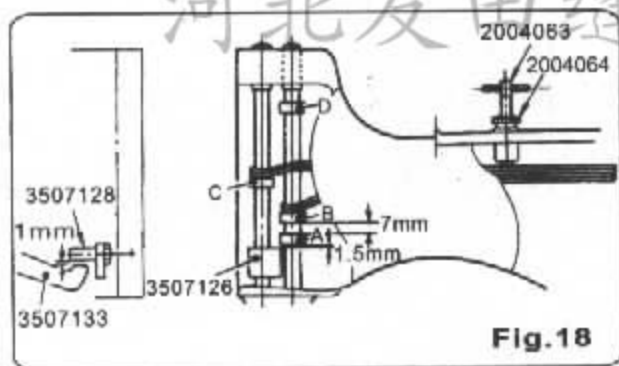

Fig. 18
1. Adjust and set presser bar holder (3507126) so that the clearance between presser lifter lever (3507133) and presser lifter pin (3507128) is 1mm, as shown in (Fig. 18)